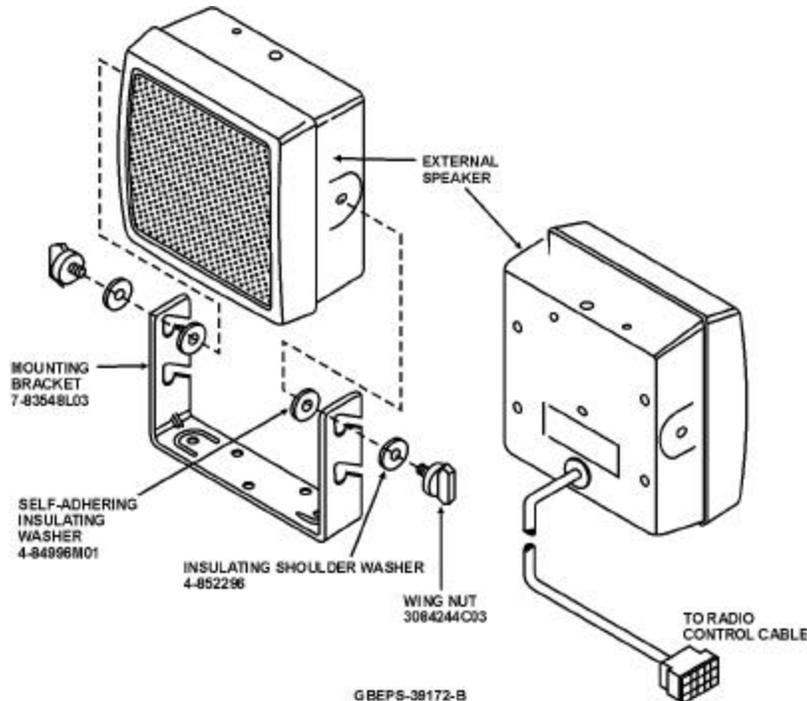

Figure 1 - External Speaker Installation Detail
An external speaker is required for some models or when V.S.P. or V.S.P. II hands-free operation is implemented. The speaker should be mounted under the dash, on the transmission hump, or other suitable location using the mounting bracket supplied with the speaker assembly. Figure 1 shows a typical external speaker and its mounting hardware.
- Step 5. Mount the speaker to the mounting bracket. Ensure that at each mounting position the self-adhering insulating washer is on one side of the bracket and the insulating shoulder Washer is on the other side of the bracket (as shown in Figure 1). Securely tighten the two wing nuts.